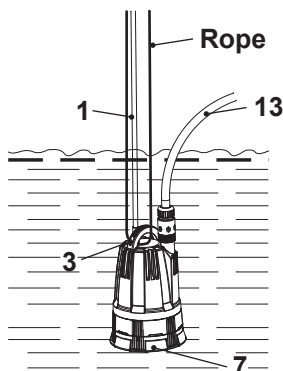

Fig. 2
- Fasten a rope to the carry handle (3) and submerge the product carefully into the water reservoir (Fig. 2).